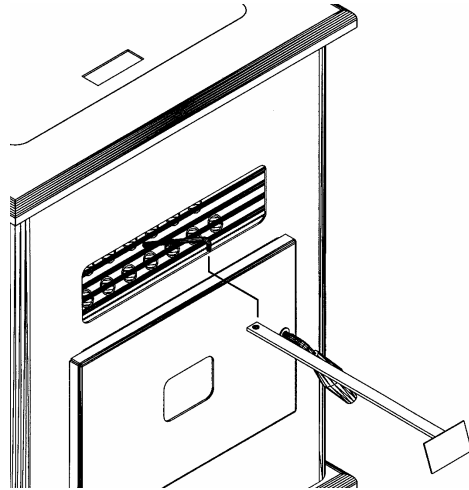

FIGURE 15
- Clean heat exchanger tubes (see “**CLEANING**” and Figure 15).
- With the door closed clean heat exchanger tubes. (See “**CLEANING**” and Figure 15).
- a. **Heat Exchange Tubes** – Your Breckwell Big E stove is designed with a built-in heat exchange tube cleaner. This should be used every two or three days to remove accumulated ash on the tubes, which reduces the efficiency of your unit. Insert the handle end (with hole) of the cleaning tool onto the cleaning rod (refer to figure 15). The cleaner rod is located in the grill above the stove door. Move the cleaner rod back and forth several times to clean the heat exchanger tubes. When finished be sure to leave tube cleaner at the rear of the stove.